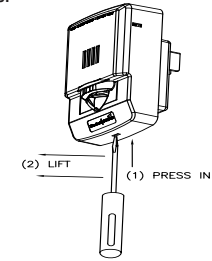

Figure 6: Removal (See step 5)
5. To remove the appliance, insert a small flat-bladed screwdriver into the bottom opening 1/2" as shown in Figure 6. Then pry off beauty cover with the screw driver and then unscrew device.